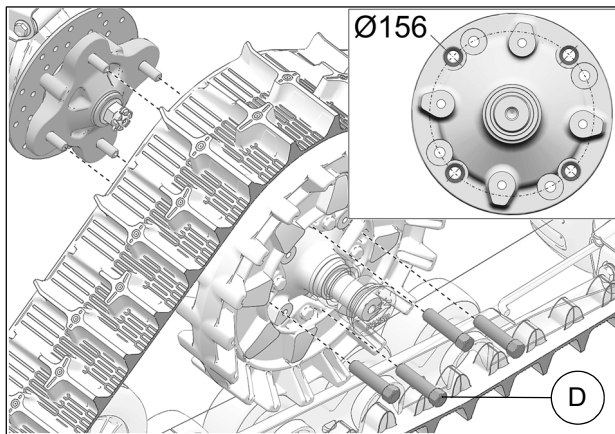

Fig. 17
8. Secure undercarriage to rear hub using the provided M12 lug nuts (D). Use bolt circle Ø156 mm. See Fig. 17